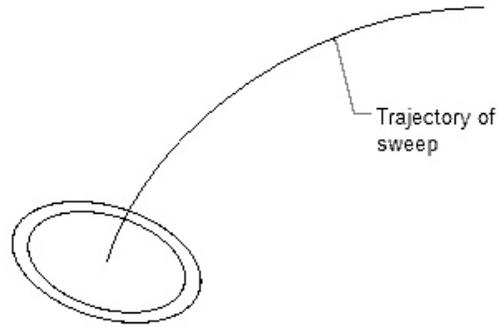

Figure 3-43 Sketch created
- c. Draw the sketch by using the sketching tools, refer to Figure 3-43.
14. Exit the sketcher environment and choose the **Standard Orientation** button from the **In-graphics** toolbar. Figure 3-43 shows the sketch created for creating the sweep feature.
2. Select the region between two circles to define the sketch region, refer to Figure 3-43; you are prompted to select the line or spline to define the trajectory.
3. Select the arc to define the trajectory, refer to Figure 3-43; the preview of sweep with the default sweep value is displayed, as shown in Figure 3-44. Also, the live toolbar and dragger are displayed.